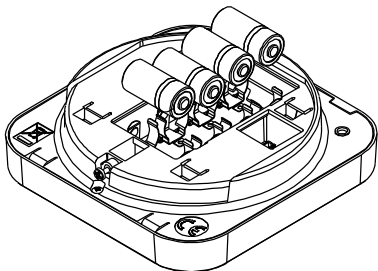

Figure 5
4. Pull out the batteries and replace them with new ones. Pay attention to the polarity when inserting the new batteries (see Figure 5)